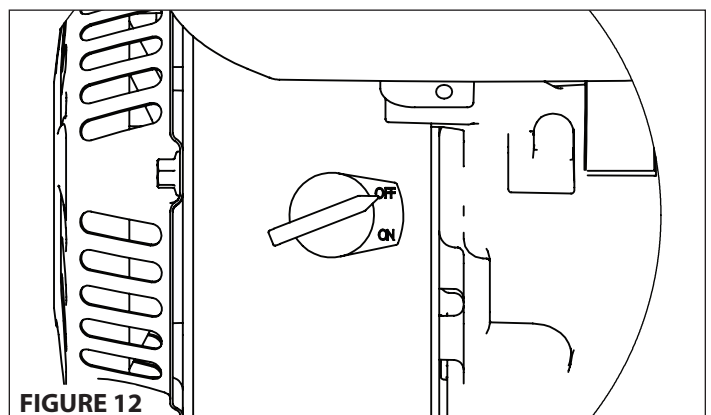

FIGURE 12
1. Move ON/OFF switch to OFF position. **SEE FIGURE 12.**